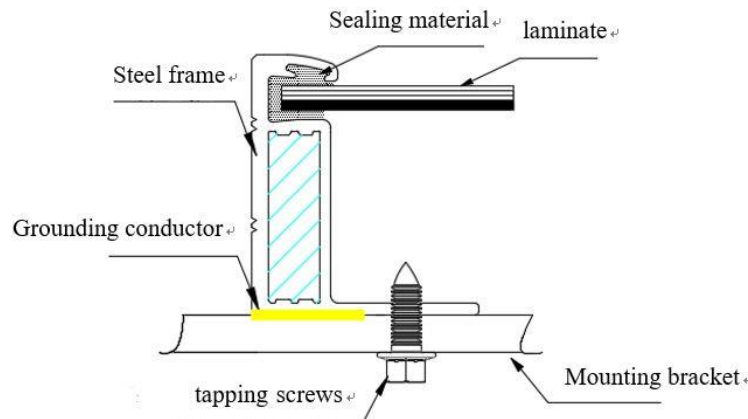

Fig.11.2 ST 4.8 pan head tapping screw grounding
- On a grounding hole with a diameter of $\phi 4$ mm, use a separate grounding wire and related accessories to connect the frame and connect the grounding wire to the ground. M4 x 12mm ground bolts with M4 nuts, star washers and plain washers are recommended for the aluminum frame, M5 pan head screws or ST 4.8 pan head tapping screws are recommended for high-strength alloy steel frames, see fig.11.2, this ensures that the modules are firmly grounded. You can find the corresponding product drawing in module datasheet to know the detailed number, size and position of the grounding holes. The torque applied to ground fixation is 4N·m~8N·m.